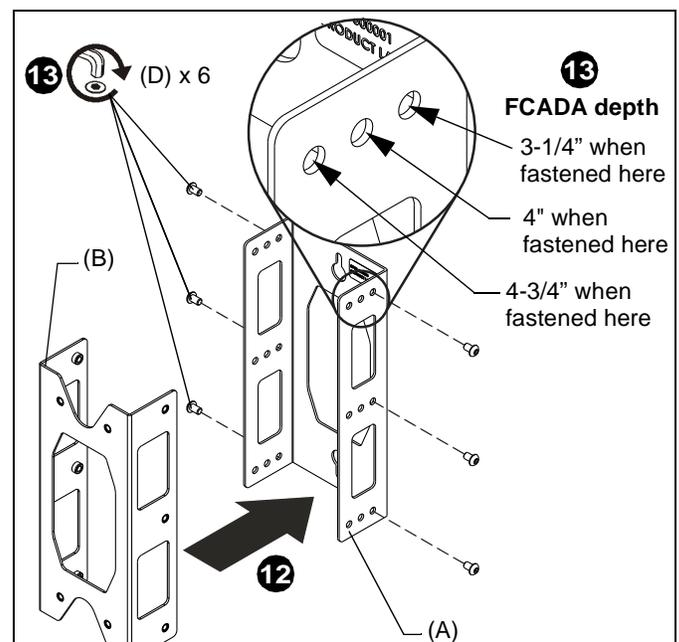

Figure 3
12. Slide mount plate (B) into wall plate (A). (See Figure 3)
13. Adjust depth of FCADA and fasten with six 5/16 x 1/2" button head cap screws (D). (See Figure 3)